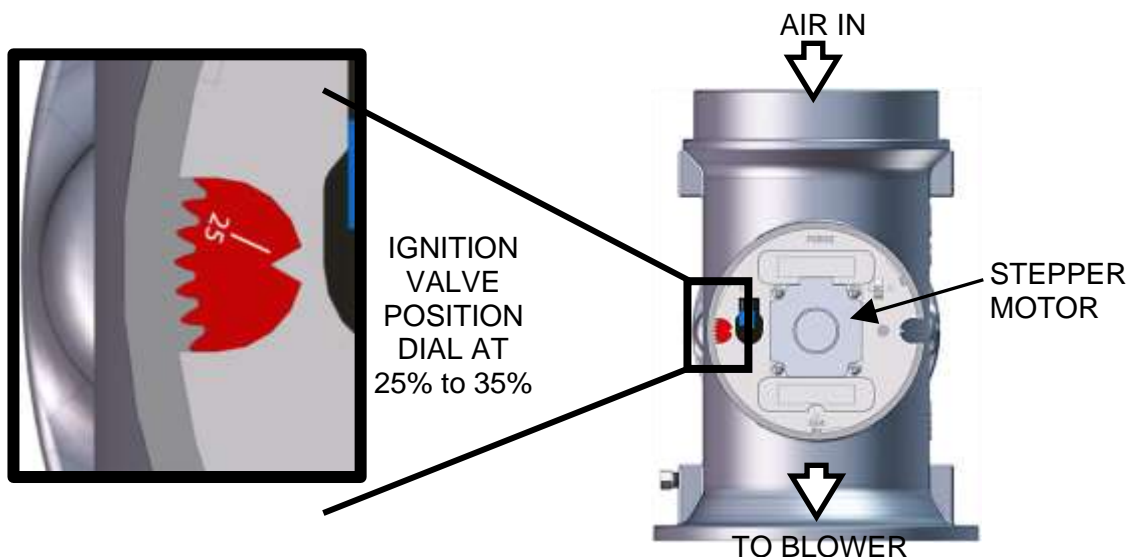

Figure 3-6: Air/Fuel Valve in Ignition Position
- A. The air/fuel valve rotates to the low-fire ignition position and closes the **ignition** switch. The dial on the air/fuel valve (figure 3-6) will read between **25** and **35** to indicate that the valve is in the low-fire position.